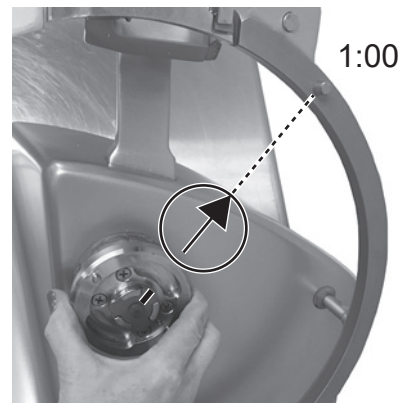

Fig. 20
- Orient the Knife Hub mark to the arrow as shown (Fig. 20), so it points to the Pin on the Ring Guard at the 1 o'clock position (Fig. 20).